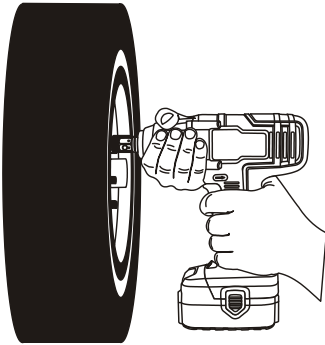

Fig. 7
4. Grasp the impact wrench handle (1) with one hand and the front housing of the impact wrench (2) with the other hand (Fig. 7).
5. Place impact socket (3) onto the wheel nut. **NOTE:** Make sure the socket is fully engaged with the nut to avoid potentially damaging the socket or the wheel nut.
6. While holding the tool level with the ground and with a firm grasp, squeeze the trigger switch (4).